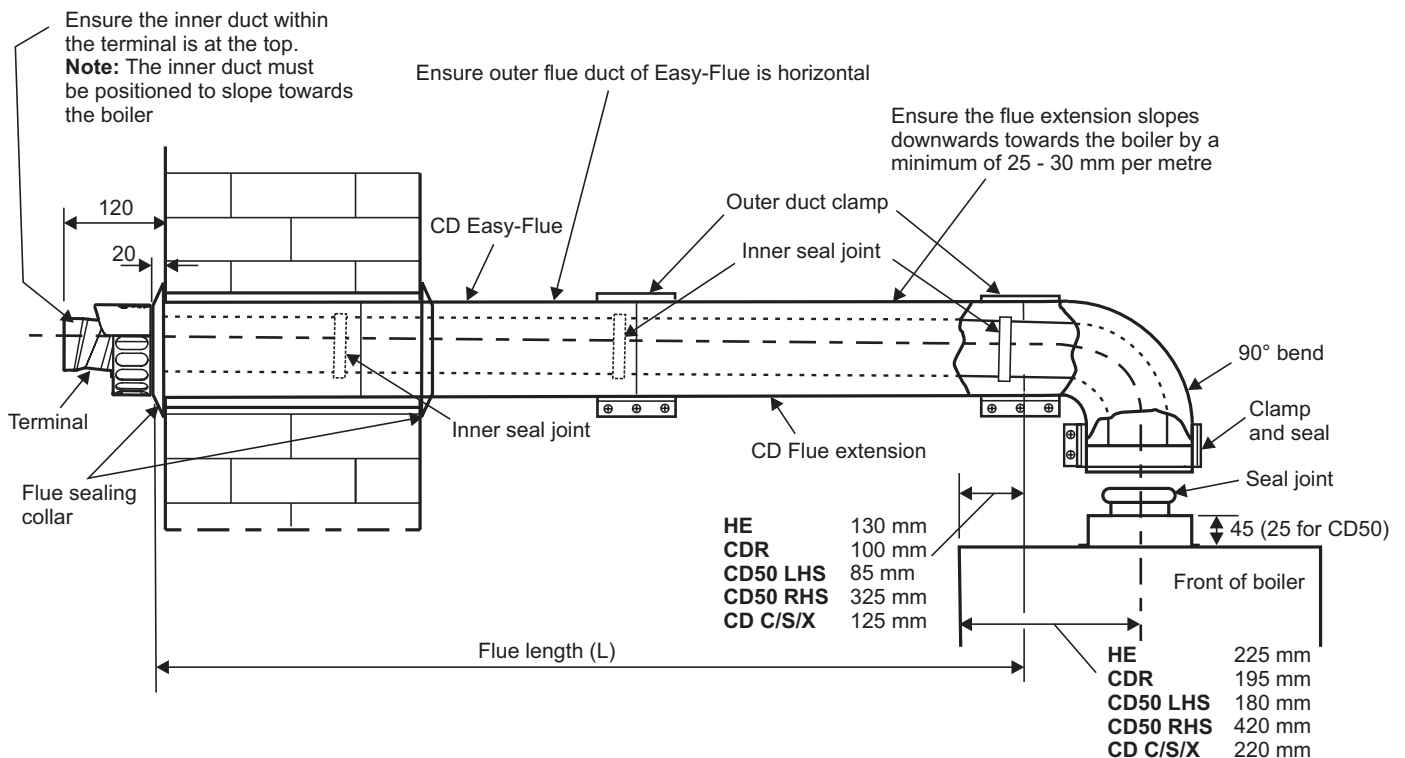

Fig. 7 - Side flue
**4b. EXTENDING THE FLUE - Fig. 7**
**Note:** Check the flue terminal protrudes 120 mm out of the wall and that the inner duct of the terminal is positioned correctly, i.e. the inner duct within the terminal is at the top. See Fig. 7.